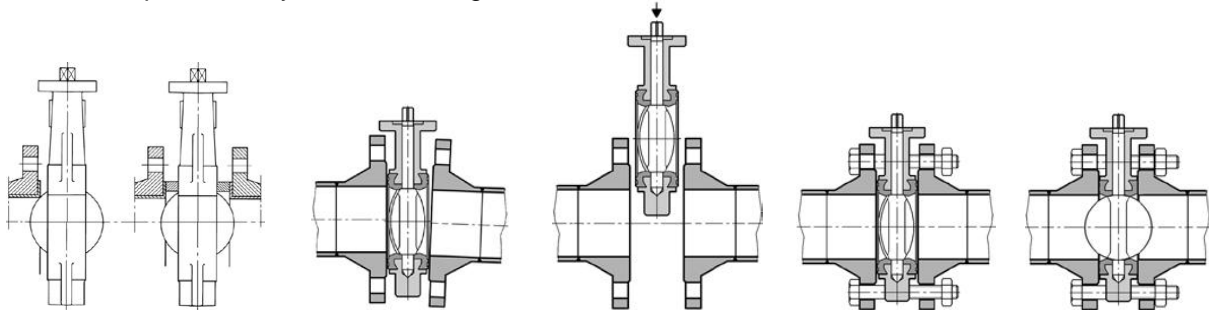

Fig. 4
- ERIKS recommends to mount rubber lined butterfly valves between flanges, which have the same inner diameter as the valves. This will extend the lifetime of the liner/seat and it will also create an optimal flange sealing. Flanges according to EN1092-2 type 11 do meet these requirements. Other types might cause difficulties. Flanges with a smaller bore than the valve itself, might damage the disc. Please use spacers when necessary. (Fig. 4). Under no circumstances should the valve be installed between non-parallel flanges. The axes of the pipeline and the butterfly valve must be aligned. The disc of an eccentrically mounted butterfly valve can be damaged (Fig. 5). It is also not allowed to weld the pipeline if the valve is mounted between the flanges. This could permanently